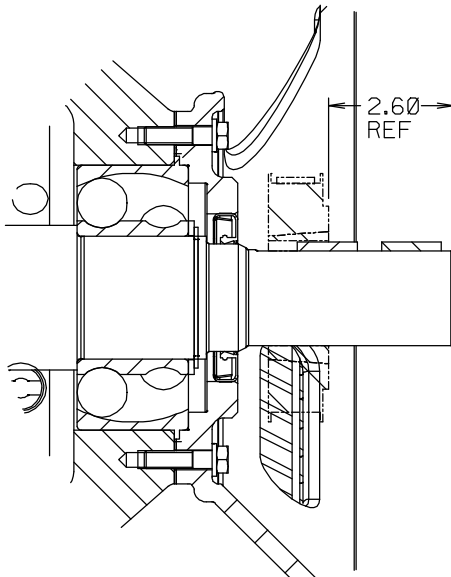

Figure 10. Compressor Drive Sprocket Positioning
Install the key (30 Figure 5) in the shaft keyway, making sure to leave room in the keyway for the drive key (31, Figure 5). Install the bushing (10) and sheave (11) on the shaft to the dimension shown in Figure 10.
To ease installation of the seal, lubricate the shaft sleeve O-ring and the external stationary seat O-ring with a very **small** amount of light lubricating oil. See Figure 10 for seal part identification.